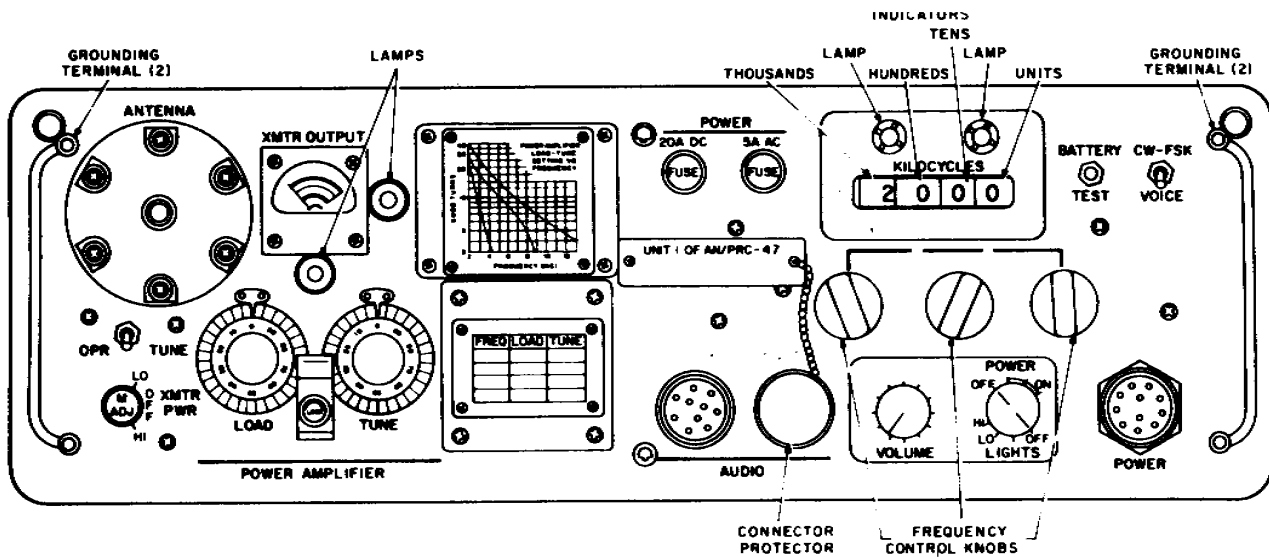

Figure 3-1. Receiver- Transmitter, Radio RT-671/PRC -7, front panel controls, indicators, and receptacles.
(2) Be sure the POWER/LIGHTS switch (fig 3-1) on the Receiver-transmitter control panel is at OFF/OFF.
(3) For the portable configuration, perform the following:
*(b)* Unwind the eight radials (two per leg) from the spools that form an integral part of each leg (fig. 1-6) and connect the short (terminated) end of each radial to the ground terminals (fig. 3-1) at each end of the receiver-transmitter front panel.
(c) Attach the threaded stud section to the ANTENNA connection on the front of the receiver-transmitter (fig. 3-1).
(1) *Portable.* During portable operation, the primary power source is the battery. For this configuration, install Adapter, Battery Terminal MX-4430/PRC-47 on top of the battery. Note that the adapter is keyed for one-way installation only. Place the connector portion of the adapter on the same side as the + and - stampings on the battery. Attach Cable Assembly, Power Electrical CX-8395/PRC-47 to the connector on top of the adapter before connecting the opposite end to the POWER connector on the RT-671/PRC47 front panel (fig. 3-1). Proceed to paragraph 2-9a.
(2) *Vehicle.* When the primary power source is a dc generator, be sure that the instructions in paragraph 2-8 have been implemented. Connect Cable Assembly, Power Electrical CX-8394/ PRC-47 to the source and then to the POWER connector on the RT-671/PRC-47 front panel (fig. 3-1). Proceed to paragraph 2-9c.
(1) On receiver-transmitter, set POWER/LIGHTS switch (fig. 3-1) to ON/LO.
(2) Press BATTERY TEST pushbutton and check that XMTR OUTPUT meter indicates in white area. If meter indicator does not deflect, check that 20A DC POWER fuse is not defective. If the fuse is defective, replace it.
(3) If fuse is not defective, check cable CX-8395/PRC-47. If cable is defective, replace it.
(4) If meter indicator deflects, but not in white area, check the battery (open-circuited) with the multimeter. The multimeter should indicate at least + 29.2 volts dc. If not, substitute another battery and repeat these procedures. For the defective battery, refer to TM 11-6140-208-15.
(5) Set POWER/LIGHTS switch to OFF/ OFF.
(1) Be sure the POWER/LIGHTS switch (fig. 3-1) is at OFF/OFF.
All controls, indicators, and receptacles used by the operator are located on the front panel of Receiver-Transmitter, Radio RT-671 /PRC-47. The front panel controls and indicators are illustrated in figure 3-1 and described in detail in paragraph 3-2.
Each panel-mounted control or indicator (fig. 3-1) is listed in the following chart and a functional description is provided to assist the operator in the proper performance of his duties.
- a. Set POWER/LIGHTS switch (fig. 3-1) to OFF /OFF.
- a. Set POWER/LIGHTS switch (fig. 3-1) to ON/LO and allow a minimum of 5 minutes for stabilization.
- a. Set POWER/LIGHTS switch (fig. 3-1) to ON /LO and allow a minimum of 5 minutes of stabilization.
- a. Verify that CW-FSK/VOICE switch (fig. 3-1) is at VOICE.
- a. Set the CW-FSK/VOICE switch (fig. 3-1) to CW-FSK for both reception and transmission; set the switch to VOICE for reception only.
- a. Mount Adapter, Cable to Connector U-239/PRC-47 (fig. 1-8) to either AUDIO connector on the receiver-transmitter front panel (fig. 3-1).
- c. Set the CW-FSK/VOICE switch (fig. 3-1) to CW-FSK for both reception and transmission; set the switch to VOICE for reception only.
- a. Set XMTR PWR switch (fig. 3-1) to OFF.
- d. Set the XMTR PWR switch (fig. 3-1) to LO.